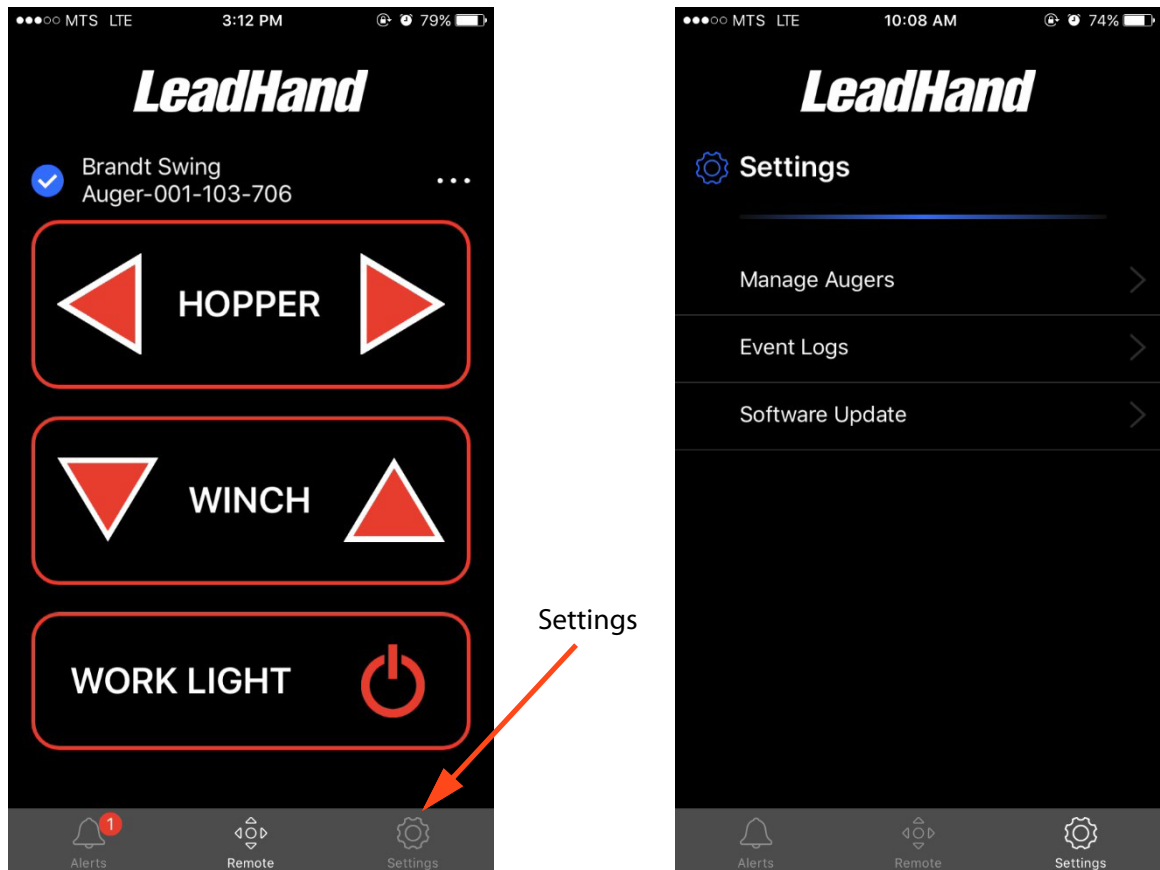

FIGURE 1-14. Settings icon and menu
2. Navigate to the Settings screen and select the Manage Augers option as shown in Figure 1-14.
1. Navigate to the Settings screen and select the Event Logs option as shown in Figure 1-14.